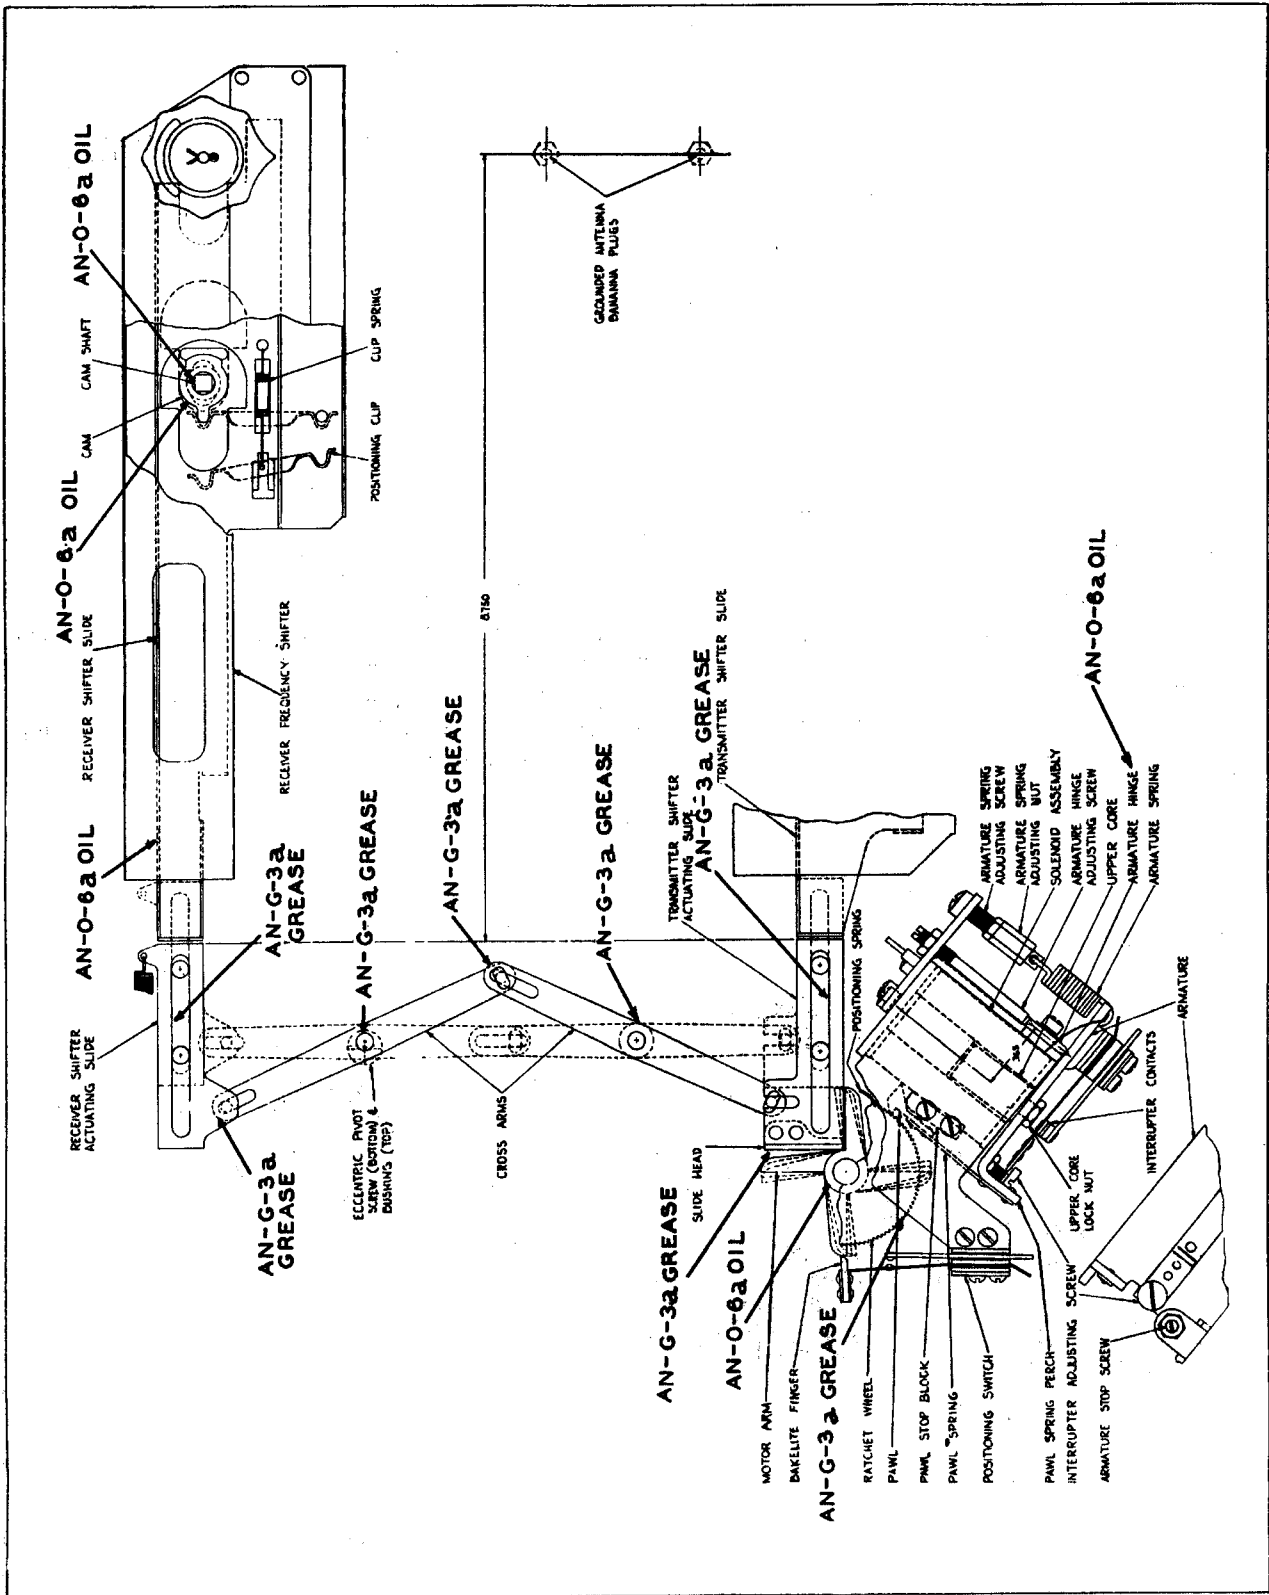

Figure 5-9. Ratchet Mechanism and Ratchet Motor, Showing Points of Lubrication and Types of Lubricant
b. The following chart lists the lubricating procedures for Radio Set SCR-522-A. (See fig. 5-9.)